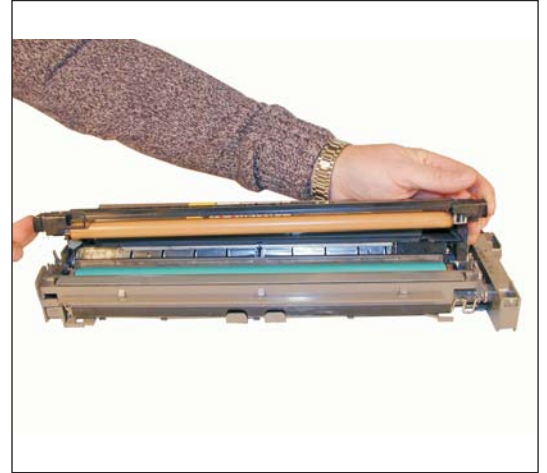

Figure 8
5) Remove the entire PCR assembly. See Figure 8